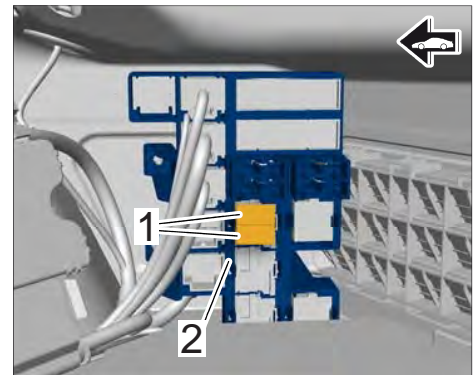

Figure 5
- 6 Press both engine-compartment blower relays ⇒ *Figure 5 -1-* into the defined slot on the relay carrier ⇒ *Figure 5 -2-* and check that they are seated correctly.